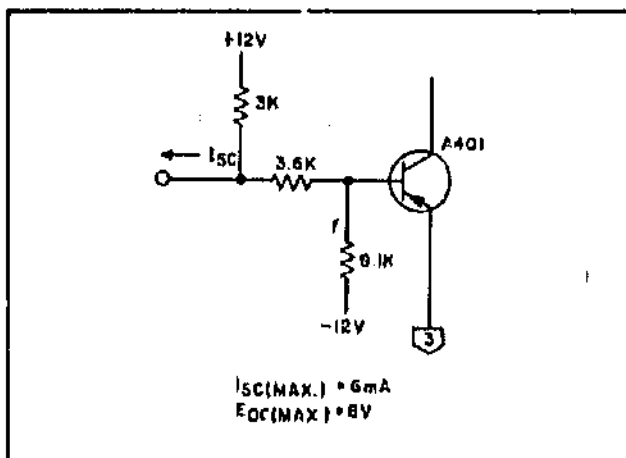

Figure A-3. Cable Continuity Interlock Receiver Circuit
A-30 Cable Continuity Interlock Receiver Circuit. Figure A-3 shows the cable continuity interlock circuit. The three input voltage divider resistors are selected so that a (3) common input will cause A4Q1 to saturate and an open (no input connection) will cause A4Q1 to cutoff. The maximum current (I_{SC-MAX}) that could be drawn from the input circuit when the input terminals are short circuited is 6mA. The maximum voltage (E_{OC-MAX}) that appears across the input terminals under open circuit conditions is 8V.